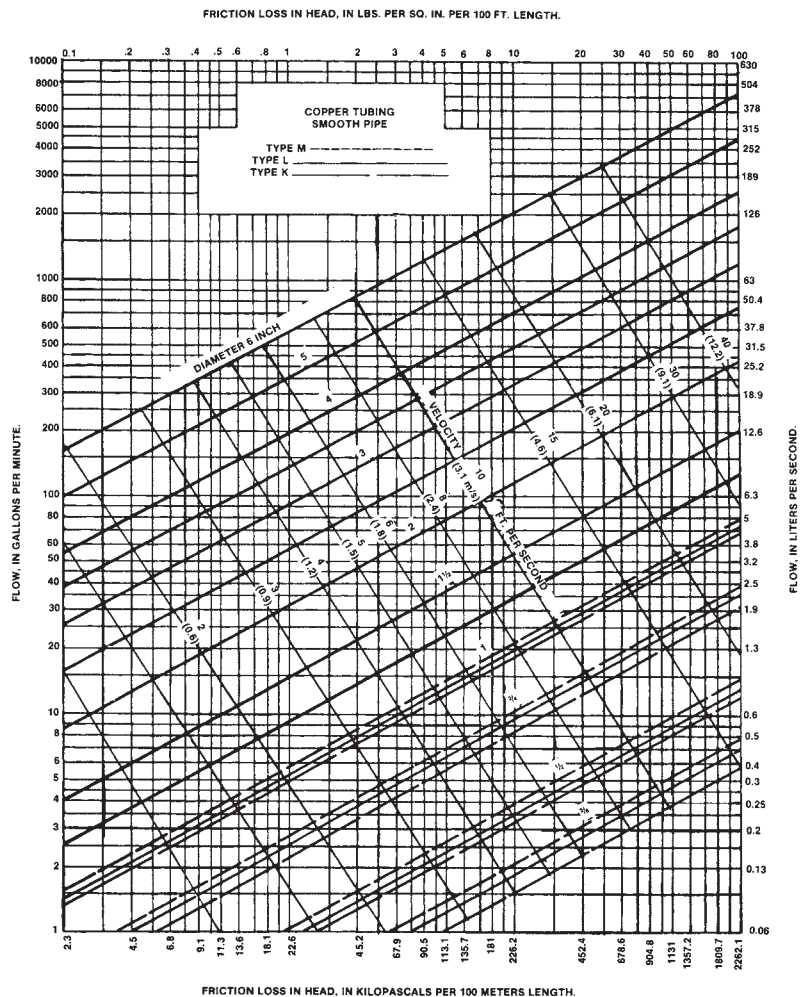

Figure 3 Pipe sizing data chart
1. Reference a pipe sizing data chart that shows demand (in gpm) versus velocity (in fps) and pressure loss due to friction (in psi per 100 feet). The charts differentiate between the types of piping because different materials have different coefficients of friction. Note that the chart in Figure 3 is for copper piping and that it includes separate lines for type L, K, and M copper pipe because each type has a slightly different coefficient of friction.
The chart in Figure 3 is from the ASPE *Plumbing Engineering Design Handbook*. Other charts may rotate the data 90 degrees, so make sure that you carefully read the chart and modify this procedure to ensure that you are looking at the correct data points.